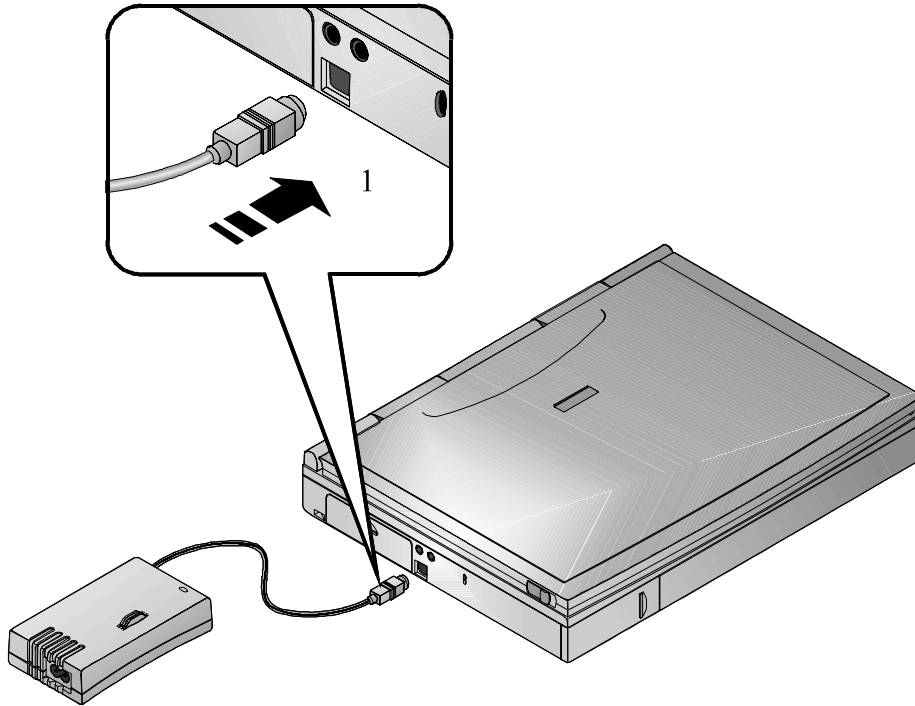
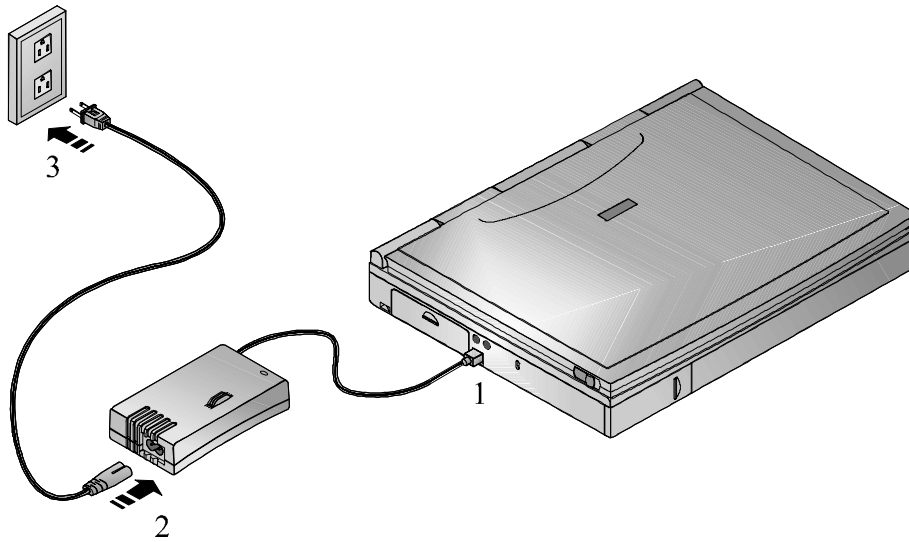

Figure 1-5: AC Adapter to Notebook Connection
Figure 1-6: The Notebook to AC Power Connection
To power the notebook by using the supplied Universal AC Adapter, refer to figure 1-5, figure 1-6 and the following instructions:
1. Connect the Universal AC Adapter to the AC port (Figure 1-5, step 1).
2. Connect the power cord to the port on the AC Adapter (Figure 1-6, step 2).
3. Plug the power cord into an electrical outlet (Figure 1-6, step 3). The green LED on the AC Adapter will light.